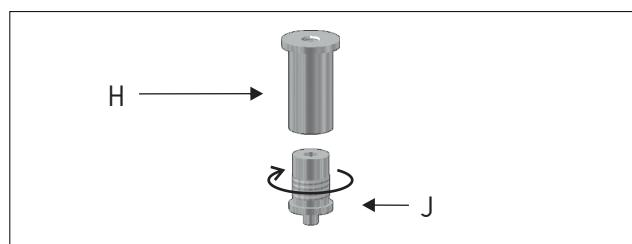

Figure 4
- 4 - Unscrew the tensors (H) from the grippers supports (J). Figure 4.